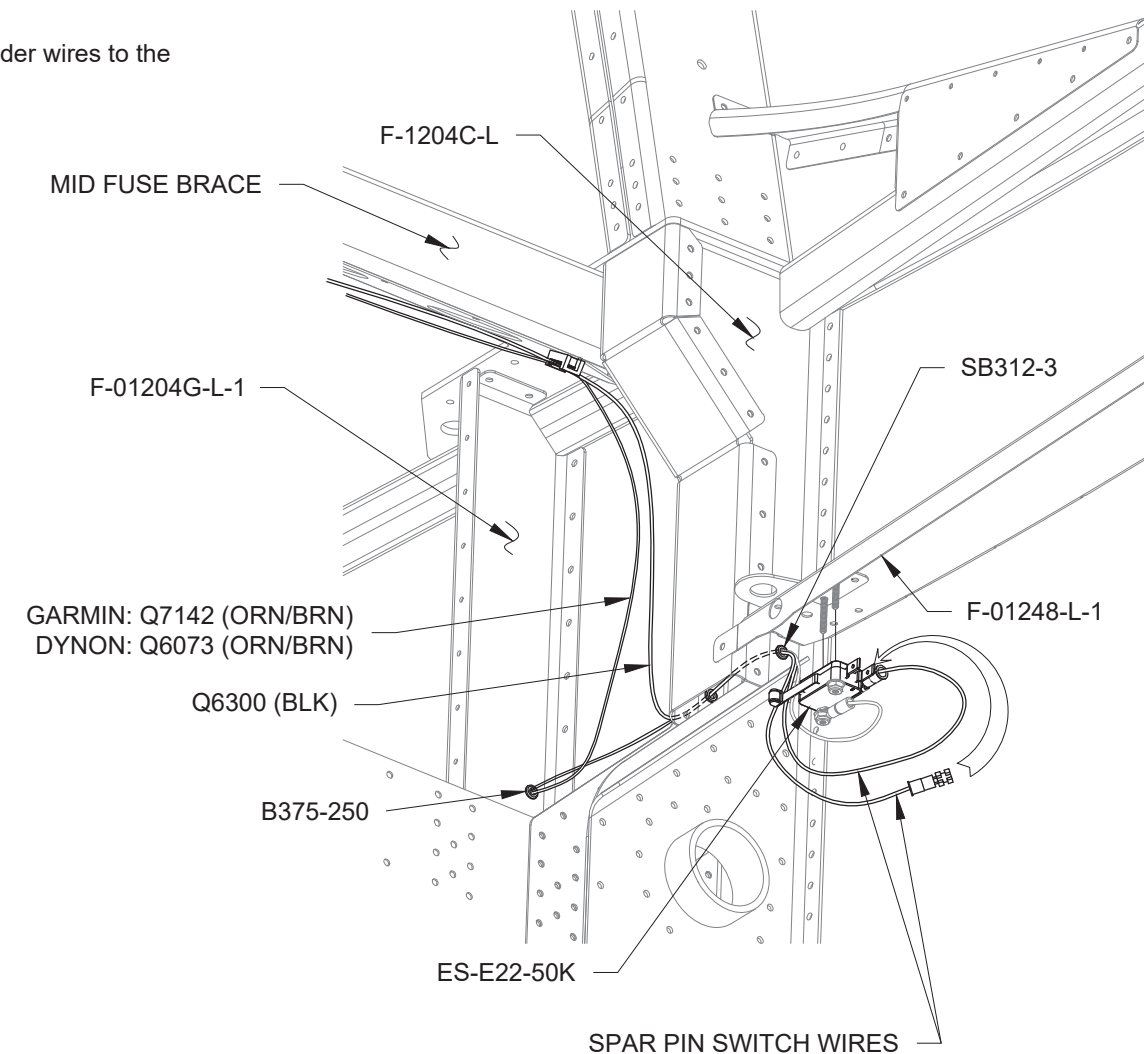

FIGURE 2: CONNECTING THE LEFT SPAR PIN SWITCH
Step 4: Connect the spar pin switch wires to the center spade (labeled "NO"), and the outboard spade (labeled "COM") of the ES E22-50K Spar Pin Switch as shown in Figure 2. It does not matter which wire goes to which spade.
Step 6: Install snap bushings in the F-01204F-L-1, F-01204B-L-1, F-01204G-L-1, and F-1204C-L as shown in Figure 1 and Figure 2. Slit the snap bushing prior to installation. Repeat for the right side of the aircraft.